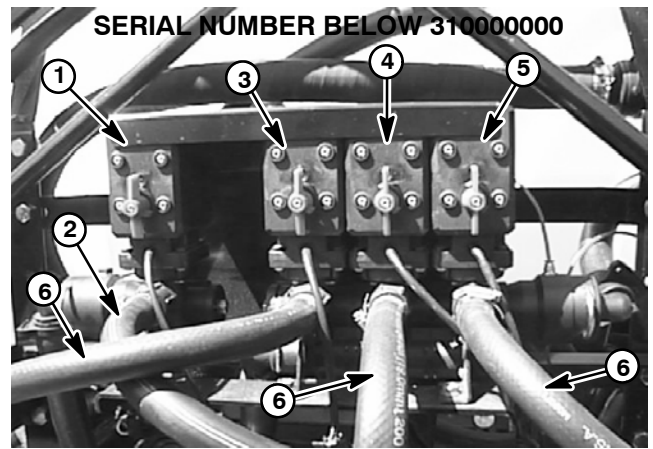
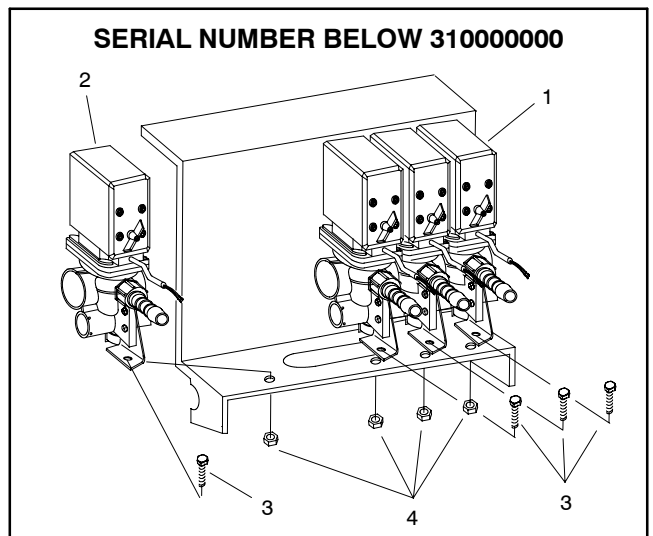

Figure 21
Figure 22
2. On machines with serial number below 310000000, remove two (2) flange head screws and flange nuts that secure support bracket (item 15) to mount bracket (item 26). Position bracket away from spray control assembly.
3. Label hoses for proper installation after repairs are completed (Fig. 21). Loosen hose clamps and disconnect hoses from spray control assembly as needed.
- C. Remove fasteners that secure boom valve motors to mount bracket (Fig. 22 or 23).
- B. Remove fasteners that secure agitation valve motor to mount bracket (Fig. 22 or 23).
- 2. Position removed motor assembly to mount bracket and secure with fasteners removed during disassembly (Fig. 22 or 23).
- 3. On machines with serial number below 310000000, secure support bracket to mount bracket with two (2) flange head screws and flange nuts.
- 4. Install hoses to correct locations on spray control assembly (Fig. 21). Secure hoses with hose clamps.